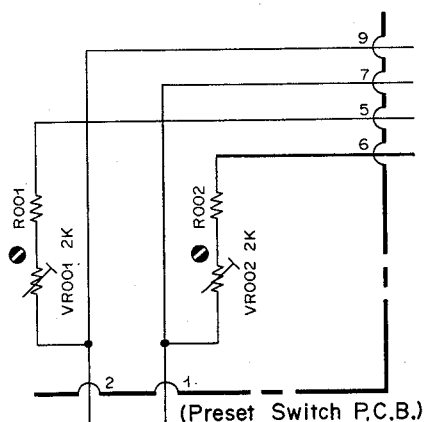

Fig. 4.1.12 Auto-Return Scale Calibration
- (1) Remove FM Generator from the FM Antenna Terminals of the N-530.
- (2) Depress the Station Memory Switch A at any mode of the N-530.
- (3) Turn counterclockwise the knob of the Station Preset Control A until it stops (click sound can be heard).
- (4) Refer to Fig. 4.1.12. Adjust VR002 on the Preset Switch P.C.B. Ass'y till the Tuning Pointer indicates 87.5 MHz (75.5 MHz in Japan) at the condition of above step (3).
- (5) Depress the Station Memory Switch D.
- (6) Turn clockwise the knob of the Station Preset Control D until it stops.
- (7) Adjust VR001 on the Preset Switch P.C.B. Ass'y till the Tuning Pointer indicates 108.5 MHz (90.5 MHz in Japan).
- (8) Repeat steps from (2) three times (or more) as the limitation of one end will be slightly changed when other end is calibrated.